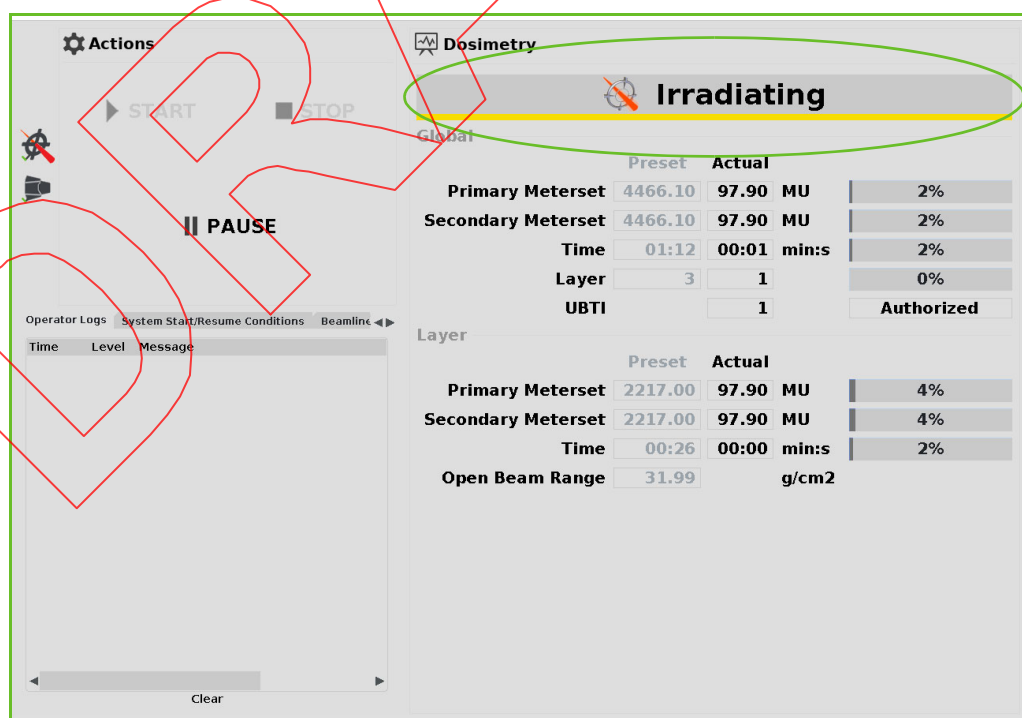

Figure 36-4. Treatment Screen - Dosimetry Panel - Irradiating screen (typical)
- Irradiating: the state appears with a green background, which temporarily changes to yellow during the actual irradiation (Figure 36-4).